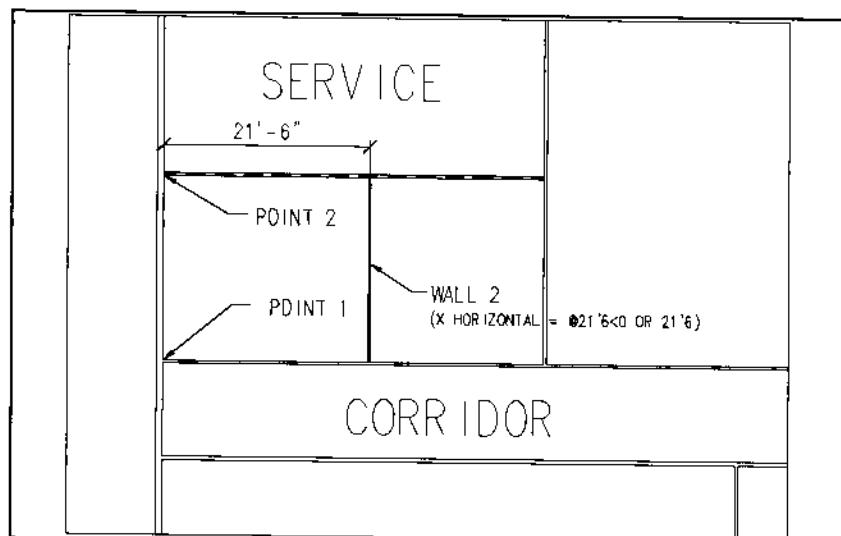

Figure 23.
2. This next wall is parallel to the exterior wall of the Service Room and offset 21'6 to the right. Select the intersection at POINT 2 as shown in Figure 23.
- > Pick base point <last>: **INT of [point 2 as shown in Figure 23]**